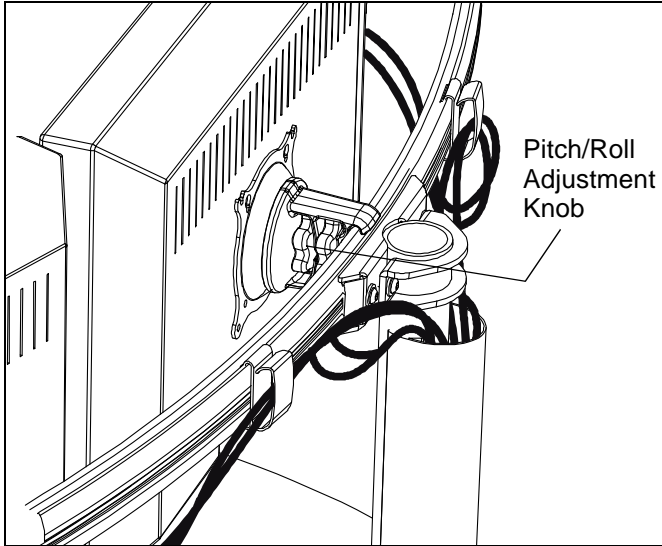

Figure 16
1. Loosen Centris bracket front adjustment knob. (See Figure 16)